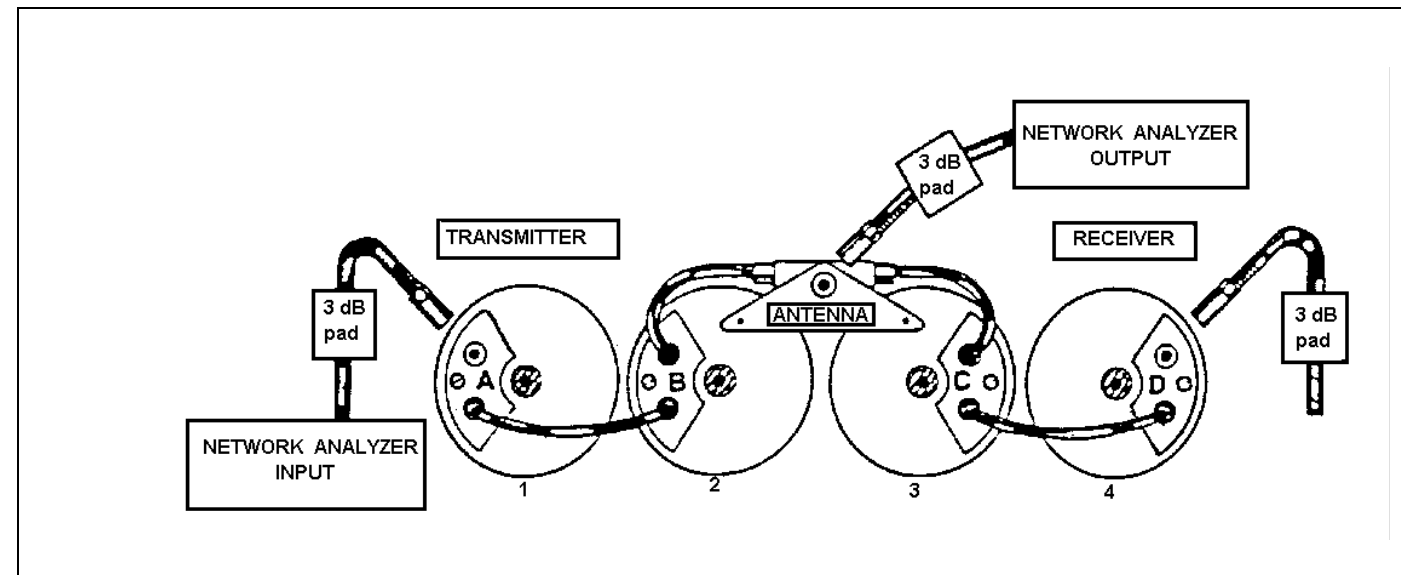

Figure 1
3. Connect the output of the network analyzer (or tracking generator) to the duplexer antenna port via the 50 ohm pad. Connect the input of the network analyzer (or spectrum analyzer) to the transmitter port via the 50 ohm pad. Set the middle screen frequency of the analyzer system to the transmit frequency and use a 20 MHz sweep (± 10 MHz). (See Figure 1)
12. Connect the input of the network analyzer (or spectrum analyzer) to the transmitter port of the duplexer and set the analyzer center frequency to the exact transmitter frequency. (See Figure 1.)